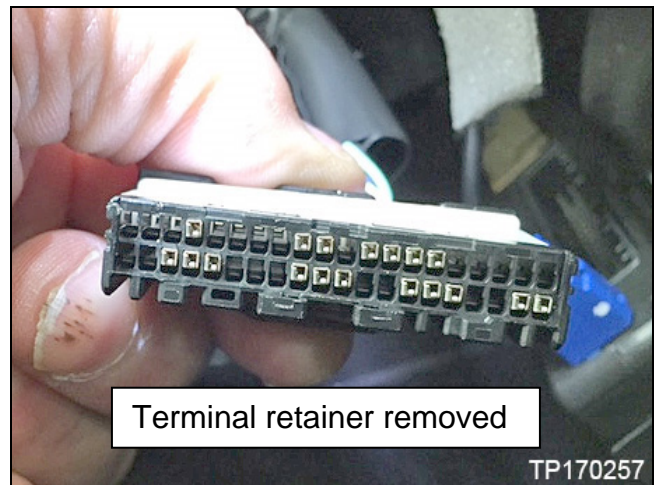

Figure 5
- Figure 5 shown without the front terminal retainer.